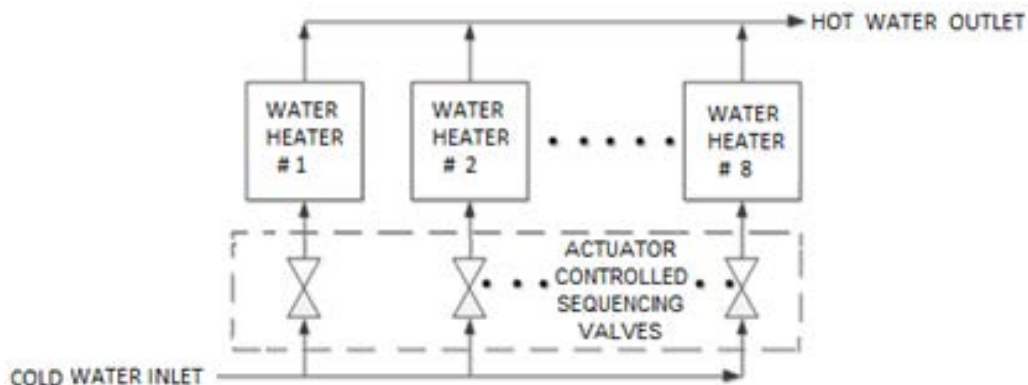

Figure 8-1. Simplified Block Diagram - Water Heater Management (WHM)
The On-Board-Water-Heater Management system II (WHM II) is a feature integrated in the C-More Controller, designed to stage and coordinate multiple AERCO Innovation water heaters while maximizing operational efficiency. The WHM software code resides in each C-More Controller that is part of the system. The WHMII can control up to eight (8) water heaters in parallel. Each water heater controlled by the WHM must be equipped with an Actuator-Controlled Sequencing Valve (P/N **92123**). These valves are installed on the cold water inlet on each water heater being controlled by the WHM (see Figure 8-1).
The C-More Controller's Water Heater Management System (WHM) is designed to ensure that all water heaters in the system operate at maximum efficiency. This is accomplished by monitoring the Air/Fuel Valve position (VP) of all water heaters that have their sequencing valves open. Units with open sequencing valves are called enabled units. Units with closed sequencing valves are called disabled units. Units which are unable to function, due to a fault or user intervention, are called offline units. When there is minimal or no demand for hot water, the sequencing valve for one unit will be open. As system load increases, the WHM will open the sequencing valves on additional heaters. A simplified block diagram of multiple water heaters connected to a WHM is shown in Figure 8-1.